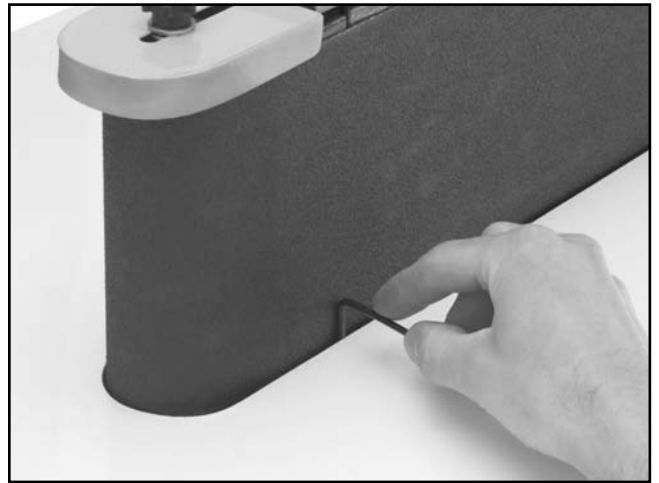
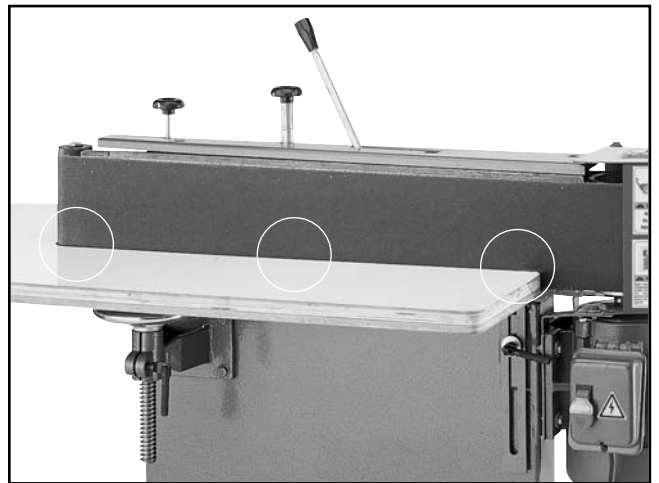

Figure 16. Allen wrench placed between platen and table.
Figure 17. Three places to ensure the spacing between the sanding belt and the table is even.
8. Use a 3mm or $\frac{1}{8}$ " Allen wrench as a gauge to position the table evenly away from the platen and the idler roller. Do this by placing the Allen wrench as shown in **Figure 16**, at the three locations shown in **Figure 17**.